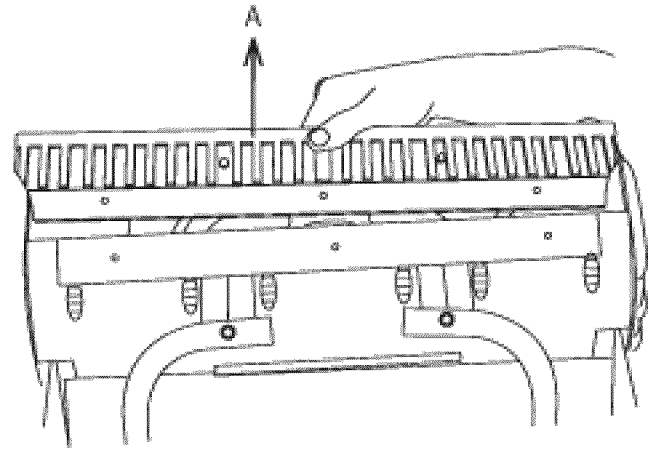

Figure 29
1. Detach the worn scraper from the snowthrower by removing the 3 screws that hold it in place (Fig. 29).